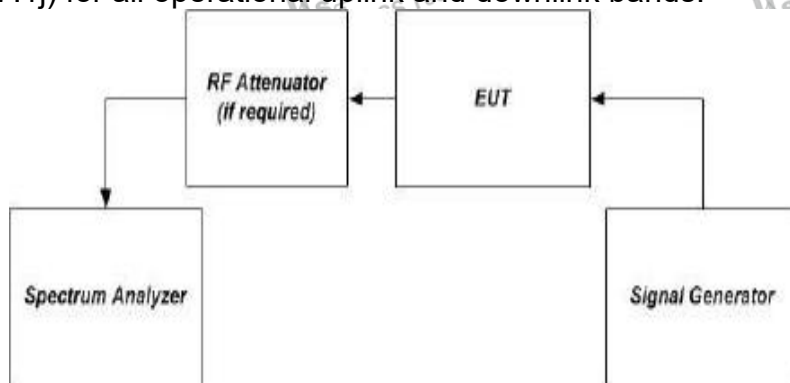

Figure 4 – Band verification test instrumentation setup
- Connect the EUT to the test equipment as shown in Figure 4. Begin with the uplink output (donor) port connected to the spectrum analyzer.